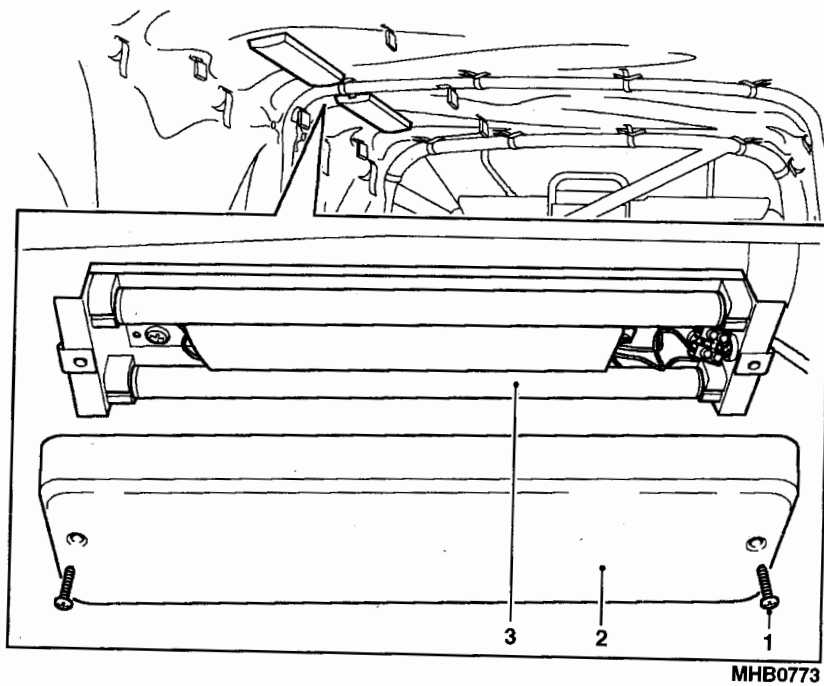

Fig 1 Interior light
- 2 To change the strip light (Fig 1) proceed as follows:
- 2.1 Undo the two screws (1) and lower the light cover (2).